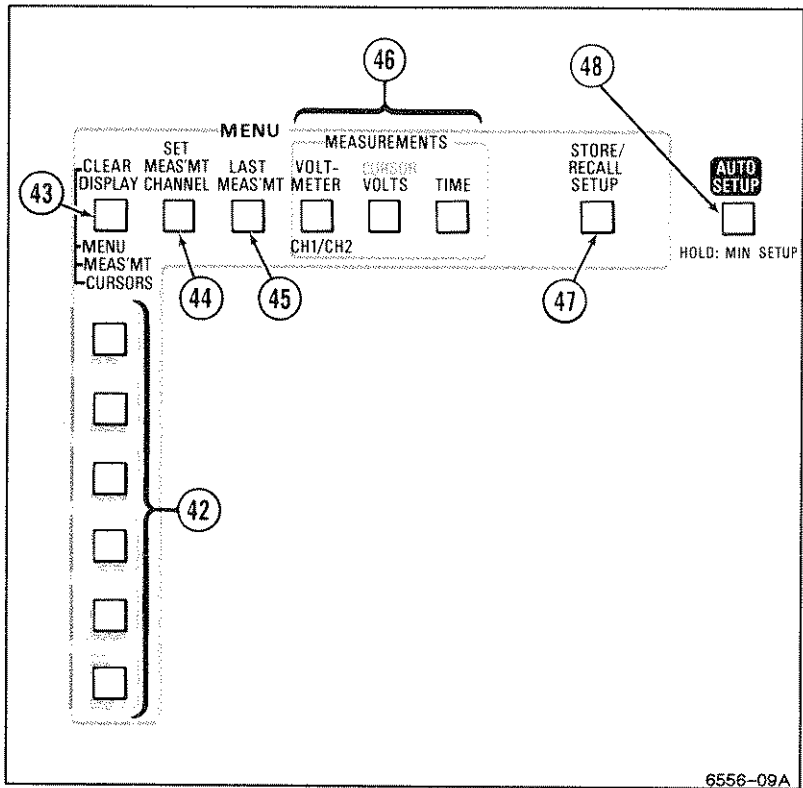

Figure 2-7. Menu controls.
Refer to Figure 2-7 for location of items 42 through 48.
- ④2 **Menu Item Select Buttons**—Select items from the list displayed on the right side of a displayed menu. A Menu Item Select button that has no corresponding menu item does nothing when pressed. The menu display will clear when the item is selected (unless the SERVICE mode CONFIGURE menu is set for: KEEP MENU ON WHEN ITEM SELECTED? YES). The factory settings default is NO.